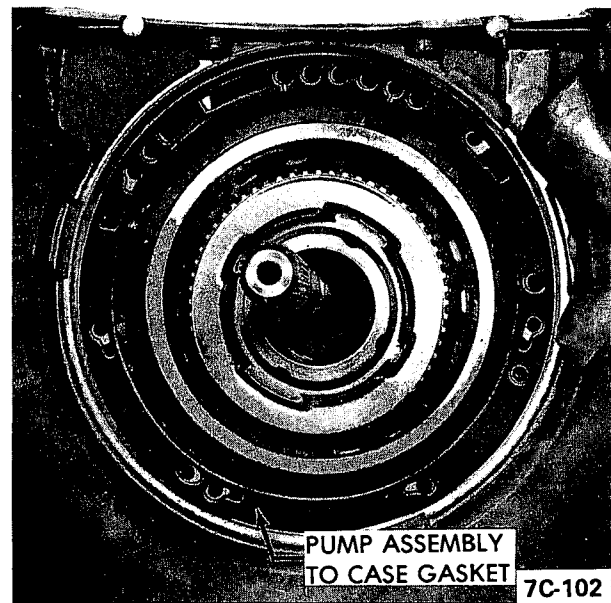

Figure 7C-160
3. Install guide pins into case. Install pump assembly into case, remove guide pins and install pump to case bolts. Using new washer type seals tighten alternately to 20 lb. ft. torque. See Figure 7C-161.